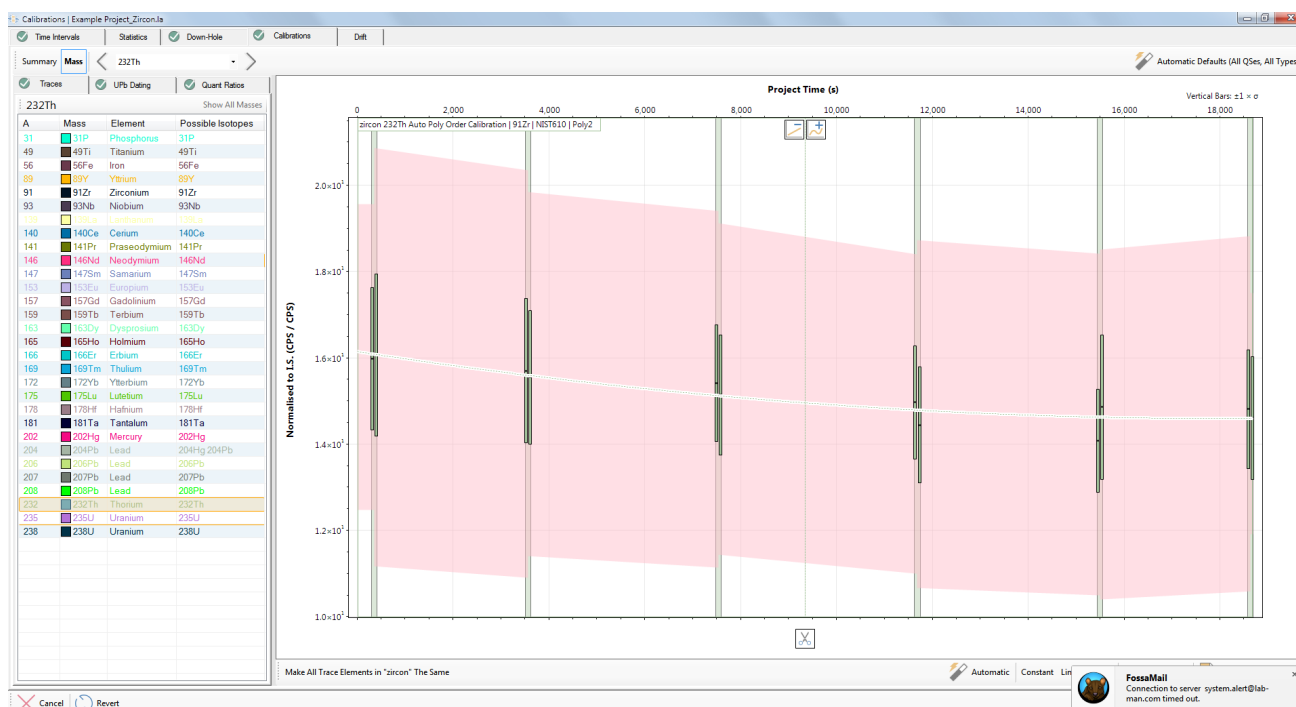

Figure 66 Calibration curve displayed for a single mass (232Th/91Zr on NIST610).
Each mass in the project can be viewed separately by selecting the “mass” button (Figure 66) to show the “drift”, or the time dependent change in the mass (i.e. 24Mg) to internal standard element ratio in the RM for the whole project. ICP–MS instruments can change sensitivity over an analytical session and this change in sensitivity is not the same for all masses. Since there is typically one internal standard element (often of light mass), if there is a change in the relative sensitivities of the light to heavy masses in the ICP–MS, a “drift” correction needs to be applied. This highlights the importance of analysing RMs regularly in a project so that any “drift” in the ICP–MS can be accurately estimated. Review each mass in each QS in the project to check the automatic “drift” fitting equations created by LADR.
3. If steps 1 or 2 do not resolve any anomalous standard values, users may left-click on the standard on the graph in Figure 66 to remove that standard from the generation of a calibration drift curve.